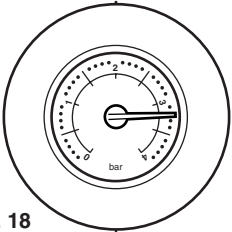

Fig. 18
3. A pressure of 3 or greater indicates a fault. The safety pressure relief valve will operate, at a pressure of 3 (Fig. 18). **It is important that your Service Engineer is contacted as soon as possible.**